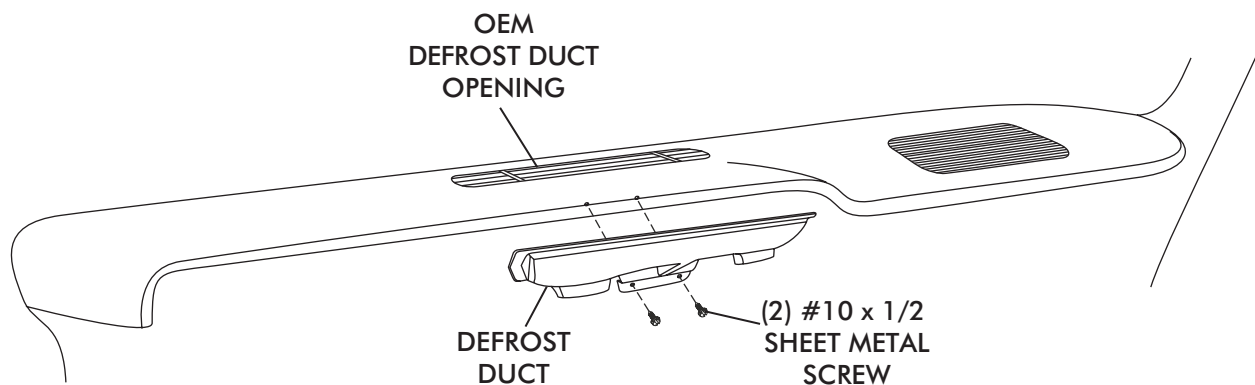

FIGURE 5
- ☐ INSTALL DEFROST DUCTS UNDER DASH AND ALIGN WITH OEM OPENING. INSTALL DEFROST DUCT TO COWL USING (2) #10 x 1/2" SHEETMETAL SCREWS. NOTE APPLY SILICONE ON SCREWS TO INSURE LEAK FREE INSTALLATION. SEE FIGURE 5 BELOW.